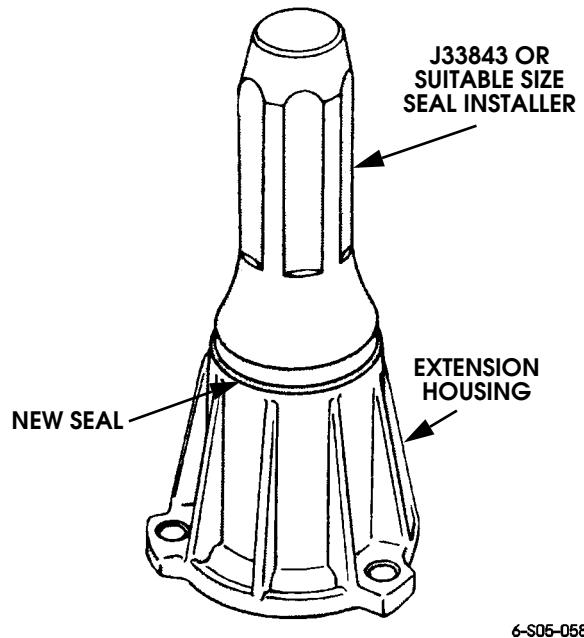

Figure 5-130: Extension Housing Seal Installation
4. Install new seal in housing with J33843 or suitable size installer tool (Figure 5-130).